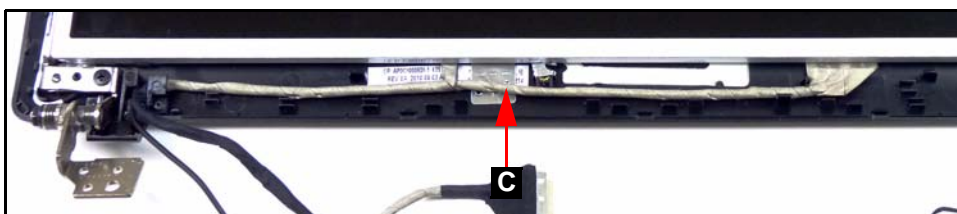

Figure 3-47. LVDS Cable
2. Remove the LVDS cable (C) from the cable guides. (Figure 3-47)
2. Put LVDS cable (C) in the cable guides. (Figure 3-47)